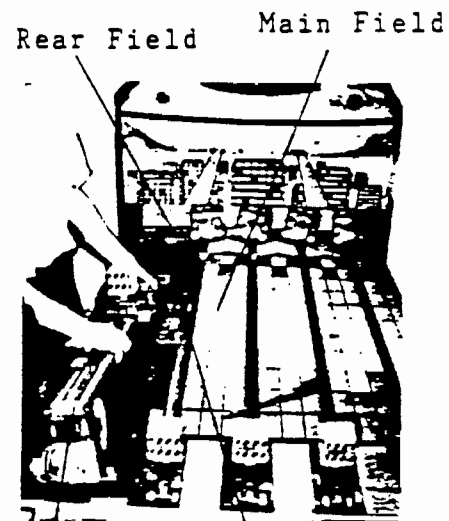

fig. 7-7
- ⑤ Remove the front side bolts (M6 hex bolt : 2) which hold the drive assy, and remove the assembly by sliding it from the rail holder to replace. [Ref. Fig. 7-7]